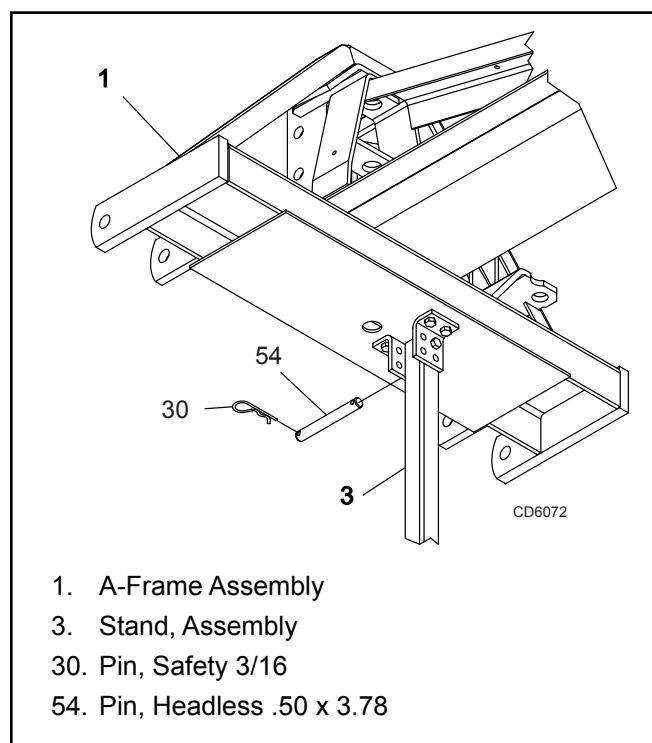

Figure 15. Parking Stand in Parking Position
5. Place A-Frame (1) over end of boom assembly (4).
6. Insert washer(s) (83) between top of boom assembly and A-Frame. One or more washers may be needed to eliminate excessive movement between A-Frame and boom assembly.
7. Position angling hydraulic cylinder (13) in boom assembly.
9. Insert pin (82) through assembly and secure with washer (83) and cotter pin (46).
10. Rotate parking stand (3) down into parking position. Secure with pin (54) and two safety pins (30) as shown in Figure 15.
11. Attach hitch pins (72), bushings (73), washers (74), and klik pins (53) to A-Frame.
12. Attach top link pin (69), bushing (70), and klik pin (32) to A-Frame.